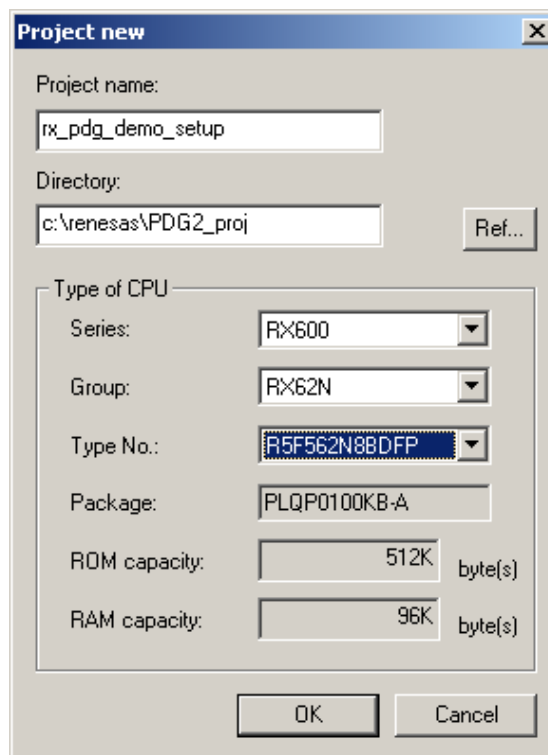

Figure 4-4: PDG New Project Window
Step 4.5 Make your window match that of Figure 4-4 and click “OK”.